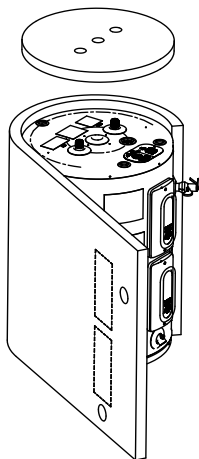

Figure 1
1. With vinyl side out, wrap the cover around water heater as shown in Figure 1.